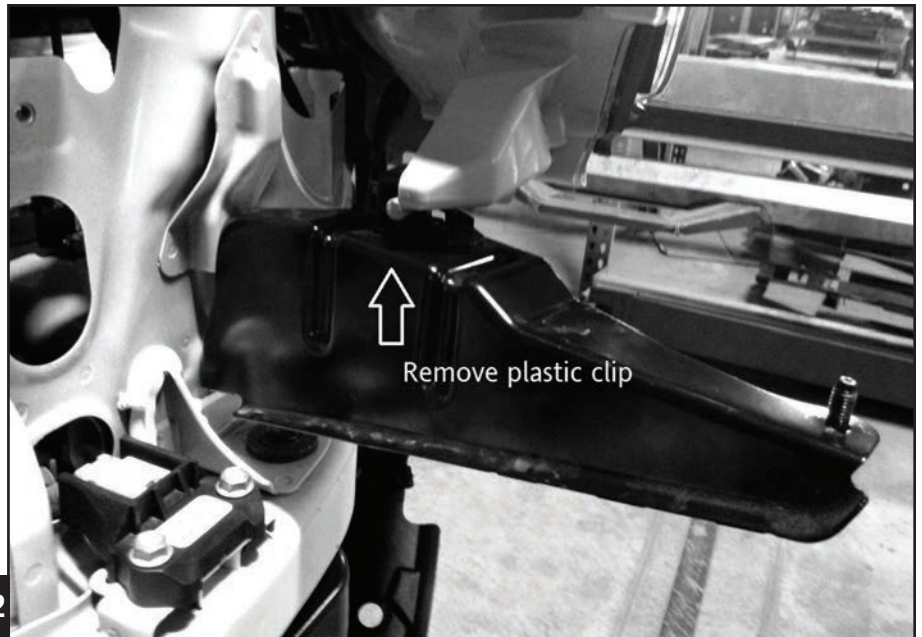

Fig 12
13. Remove (4) bolts attaching lower headlight support. The clip attached to the headlight will just slide off the headlight to the side. You will need to remove the plastic clip by depressing the tabs in the two square parts to get them to release (**Fig 12**).